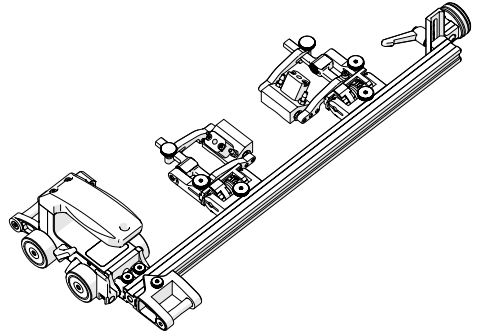

Fig. 154 - Assemble configuration
2. Assemble the appropriate configuration to the cart body (Fig. 154). Install the wedge and probes that will be used (see *Slip Joint Probe Holder* on page 29).